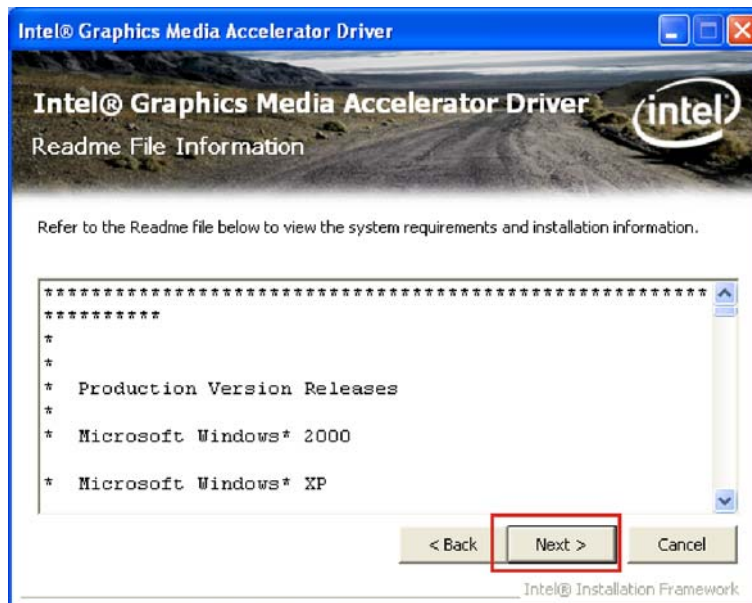

Figure 7-10: VGA Driver Read Me File
Step 26: The Readme file in Figure 7-10 appears.